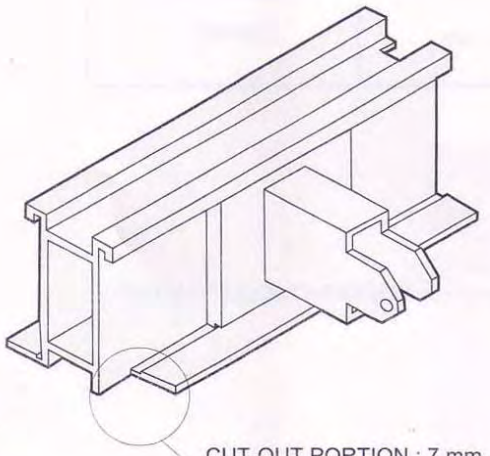

FIG. 6
B. RUNNER TO T-CONNECTOR (Fig. 6)